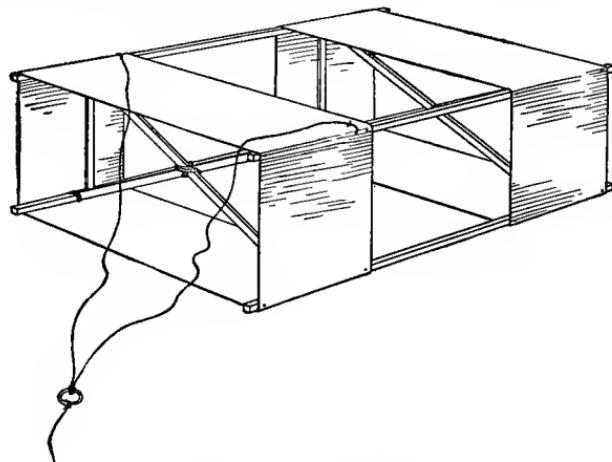
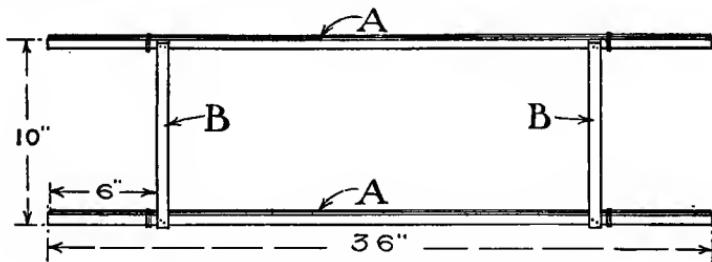

FIG. 482.—The Box-Kite.
FIG. 483.—Make Two Side Frames like this.
**The Side Frames.** Cut the four horizontal sticks  $\frac{3}{8}$  inch thick and  $\frac{3}{8}$  inch wide, by 36 inches long (*A*, Fig. 483),
and the four upright connecting sticks (*B*, Fig. 483)  $\frac{1}{4}$  inch thick,  $\frac{1}{2}$  inch wide, and 10 inches long. Tack the upright
sticks to the horizontal ones 6 inches from the ends of the latter, as shown in Fig. 483, using slender brads for the purpose, and clinching the projecting ends. In fastening
After fastening together the side-frame sticks as shown in Fig. 483, lay them aside until you have prepared
shown in Figs. 483 and 485, will keep the ends of the braces from slipping away from the uprights *B*, which is the proper position for them. Bind the braces together at their centers with thread, as shown in Figs. 482 and 484. Coat the lashings with glue after winding them, and the thread will hold its position better.
**Attaching the Bridle**, but that shown in Fig. 482 is generally considered the most satisfactory. Of course, the kite is flown other side up, with the bridle underneath.